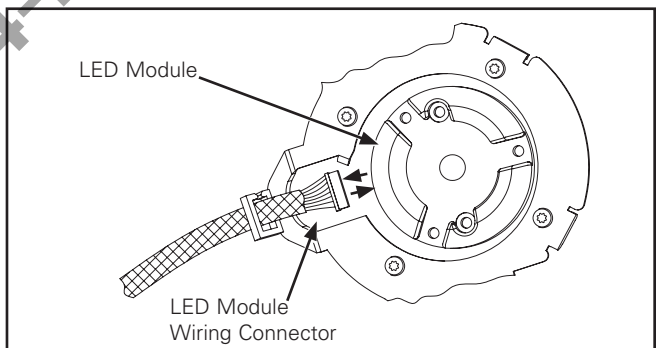

Figure 28.
4. Disconnect the LED Module wiring connector (Figure 28.).